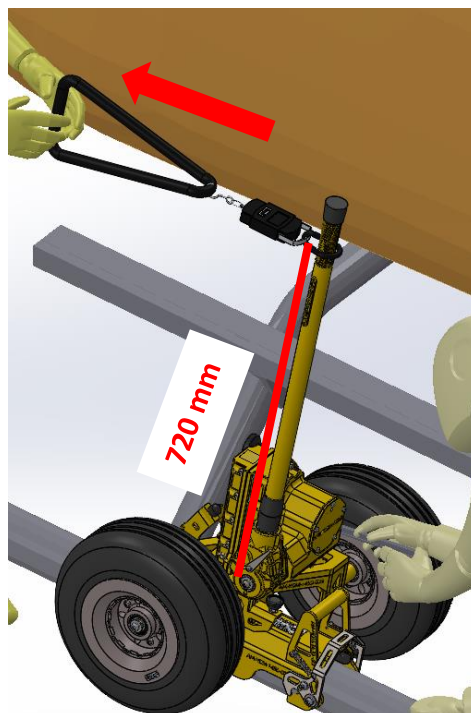

Figure 8
- i. One operator must lock the screw (1-4/21) with a wrench while another operator positions the hook scale on the lever bar. The position must be 720 mm in relation to the center of the ratchet handle, as shown in Figure 8. The operator must pull the lever bar, repeating the movement until the scale registers 21 Kgf.